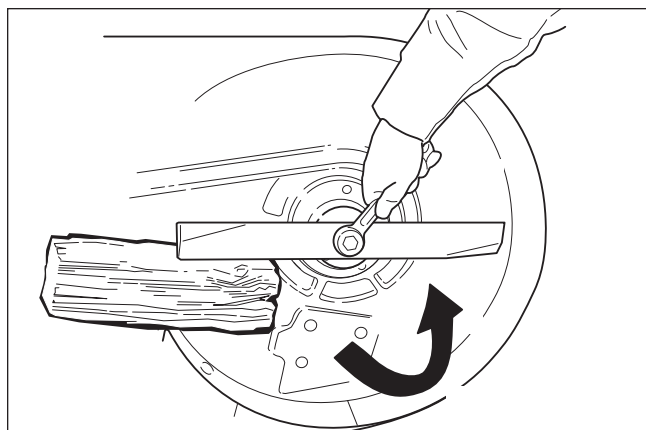

Figure 22. Loosening the Mower Blade for Removal
1. To remove the mower blade, wedge a wooden block between the mower blade and the mower deck housing to keep the blade from turning and remove the mower blade mounting bolt with a 15/16" wrench (Figure 22).